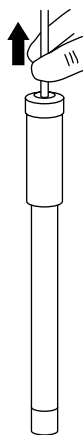

Fig. 13
13. Carefully shake the fully assembled electrode as if it were a clinical thermometer to remove air bubbles. Gently pull the spring loaded cable back and slowly release it to allow the filling solution to migrate between the membrane and inner body. See **Figure 13**.